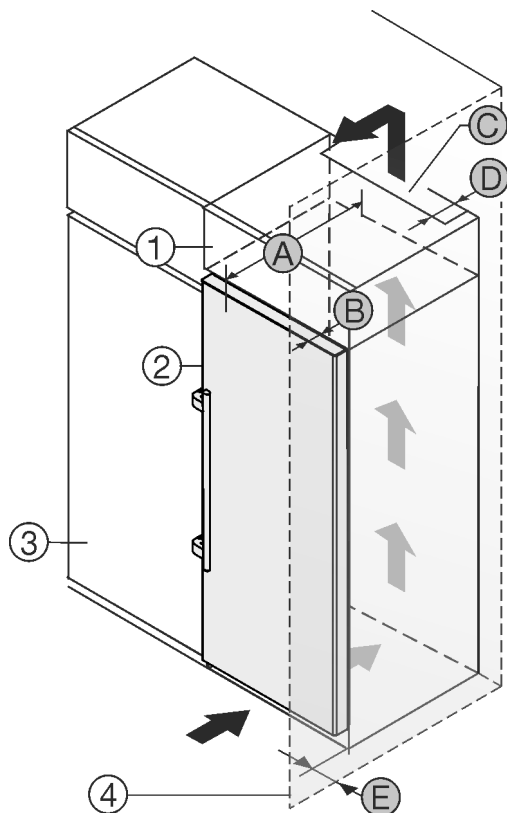

Fig. 2
- (1) Top cabinet \*
- (2) Appliance \*
- (3) Kitchen cabinet \*
- (4) Wall \*
- (A) Appliance depth \*
- (B) Door depth \*
- (C) Ventilation cross section \*
- (D) Distance to the back of the appliance \*
- (E) Distance to the side of the appliance \*
You can place the appliance directly beside the kitchen cabinet Fig. 2 (3).\*
There must be a ventilation shaft at the depth Fig. 2 (D) of the back of the top cupboard over the entire width of the top cupboard.\*
The ventilation cross-section Fig. 2 (C) must be maintained under the ceiling.\*
If the appliance is set up with the hinges next to a wall Fig. 2 (4), the distance between the appliance and the wall must be at least 57 mm . This is how far the handle protrudes when the door is open.\*
In order to be able to fully open the door, the appliance must protrude by the depth of the door Fig. 2 (B) from the front of the kitchen cabinet. The appliance may protrude further depending on the depth of the kitchen cabinets Fig. 2 (3) and whether wall spacers are used.\*